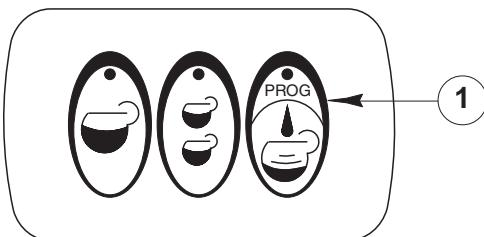

Fig. 2
- 4) Press one of the keys of the coffee distribution keypad (fig. 2) according to the desired dose.
The machine is preset for the continuous distribution: press the key "PROG" (fig. 2; pos. 1) to start the distribution, press it again to stop it.
To program every single dose, do what follows: keep pressed the key “PROG” relative to the continuous dose programming (fig. 2; pos. 1) for about 5 seconds until the LED blinks.
Press the key "PROG" (fig. 2; pos. 1) several times for version BZ02 DE.